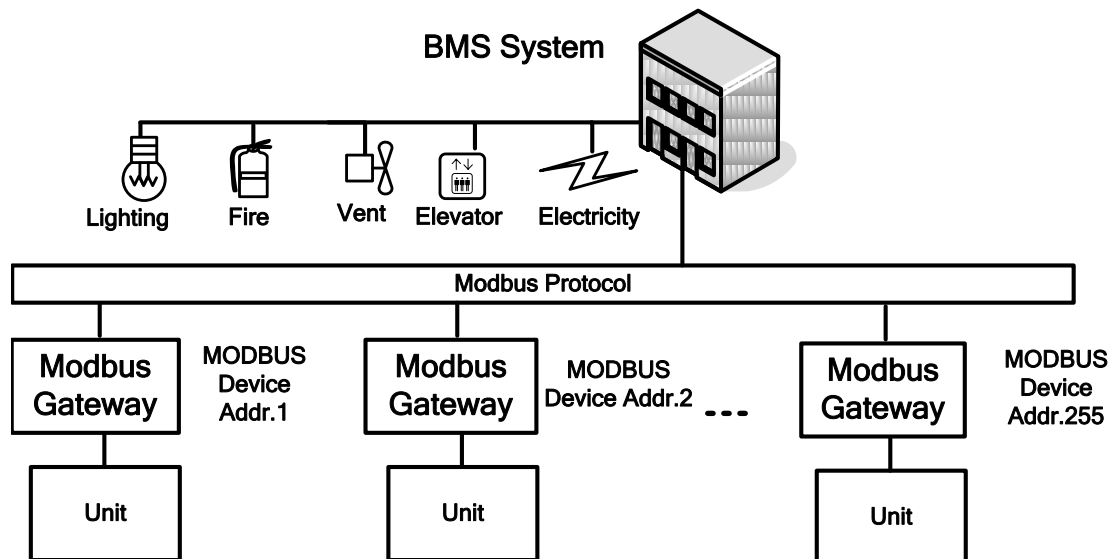

Fig.1: Topological Structure
1) As shown in Fig. 1, it can be seen that the whole network consists of two parts: units network and Modbus network, which are connected through the Modbus Gateway by which the communication data can be interchanged.